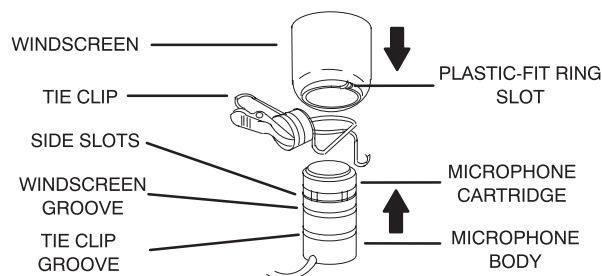

FIGURE 1
1. Insert the top of the microphone through tie clip loop from below until tie clip loop snaps into place over the lower groove on the microphone. Refer to Figure 1.
The MX183BP, MX184BP, and MX185BP microphone systems use interchangeable cartridges. To remove the cartridge, unscrew it from the microphone body (see Figure 1). Install the replacement cartridge by screwing it onto the microphone body.